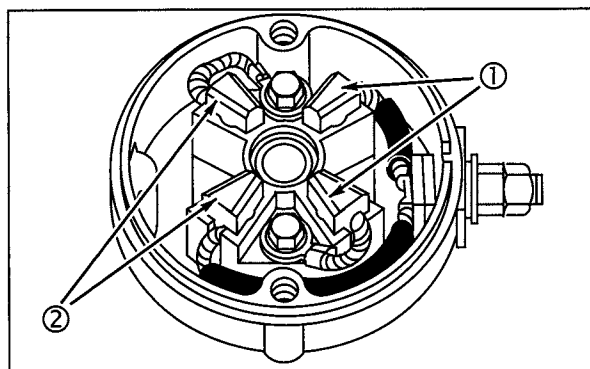

Fig. 20
Refer to Fig. 20 for axial compression spring end caps and for the correct location of positive brushes (1), negative brushes (2), brush leads and wire routing. Note order of assembly for insulators, washers and screws or nuts.